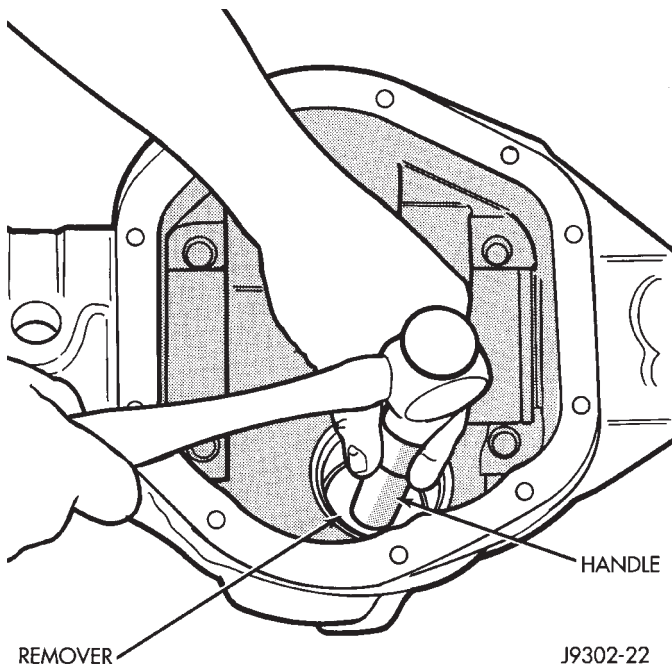

Fig. 30 Front Bearing Cup Removal
- (7) Remove the front pinion bearing cup, bearing, oil slinger, if equipped, and pinion seal with Remover D-147 and Handle C-4171 (Fig. 30).